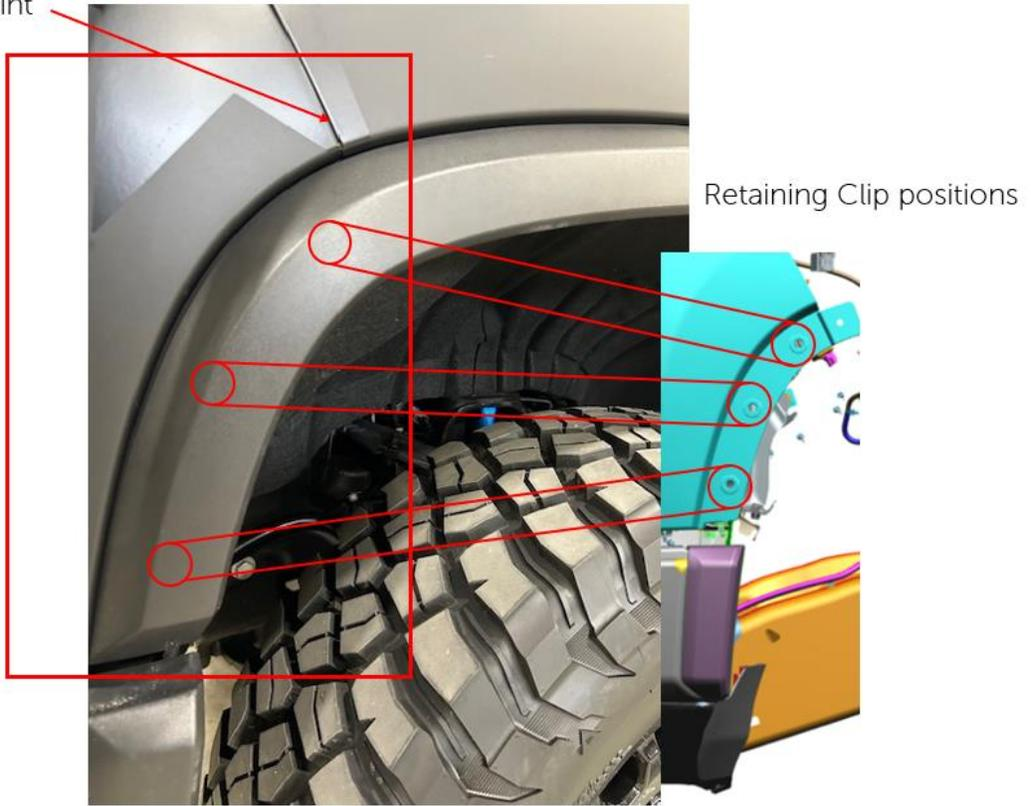

Figure 6
- C. Partially remove plastic flare on front portion of fascia up to sheet metal of vehicle. See Fig. 6